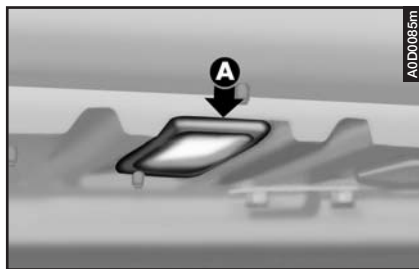

fig. 80
- Remove the light levering on point **(A- fig. 80)** with a screwdriver.